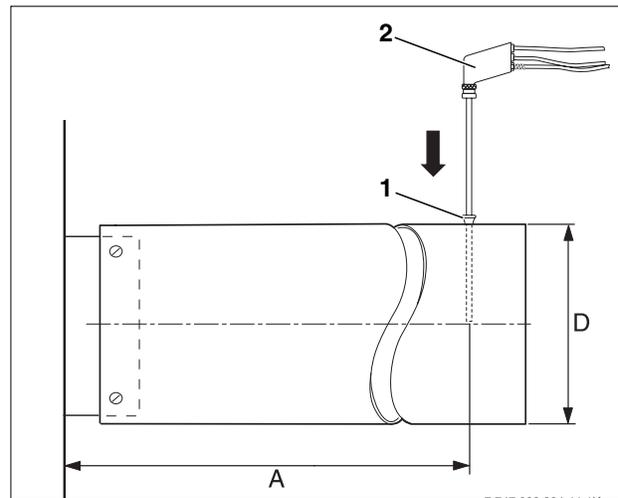

Fig 19 Record burner test values
- Insert the flue gas analyzer probe (Fig. 19, **Item. 4**) into the main flue gas flow at the vent connection (Drill hole in flue pipe if necessary).